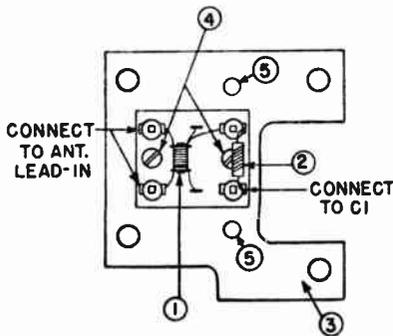
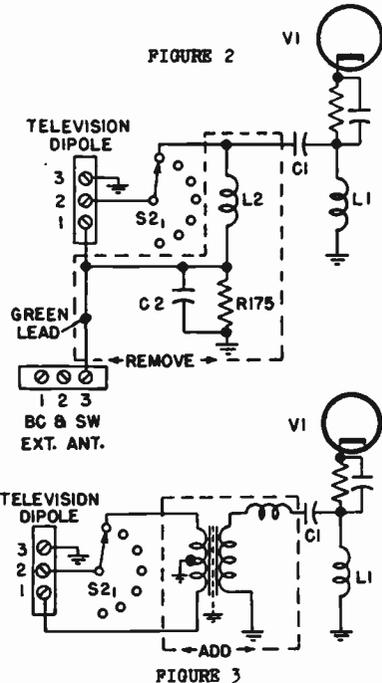

FIGURE 1
FIGURE 3
3. Remove green wire and 1.0-megohm resistor R175 from BC and SW external antenna terminal board, and discard parts. The green lead is end of lead removed in step (1).
5. Assemble transformer (1) Stock No. RLA-033 to mounting plate (3), Stock No. RAP-008, using two #4-40 x 5/16" screws, nuts, and lockwashers. Solder choke (2), Stock No. RLI-037, as shown in schematic, Figure 3, and mechanically mount as shown in Figure 1. Also, fasten the two brass ground straps, removed in step (2), to the holes (5) shown in Figure 1, using two #4-40 x 5/16" screws, nuts, and lock-washers.
7. Solder C1 to choke as shown in Figures 1 and 3.
8. Re-connect antenna input transmission line to terminals as shown in Figure 1.